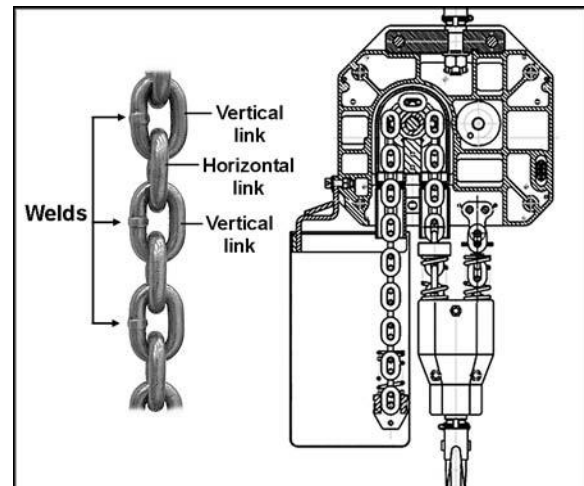

Figure 8
4. Using a C-link, connect the new chain to the old chain. Be sure vertical link welds face away from load sprocket (see Figure 8).
Vertical and horizontal are determined by the relationship with the load sprocket. Vertical links will be guided by the center slit in the load sprocket. Horizontal links will engage in the oval pockets on the sprocket. See Figure 8.